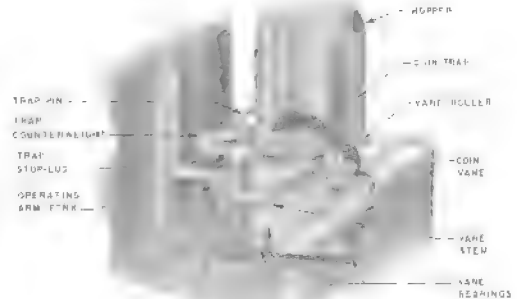

Fig. 57—Hopper and Rear of Two-Coil Coin Relay
- (3) Check trap for catching on vane or on vane roller as follows:
- (4) Check clearance between trap and vane roller as follows:
- (b) Move vane to vertical position. If vane rubs on trap, adjust trap stop lug so that trap will just clear vane (Fig. 57).
- (c) With vane in vertical position, lift trap counterweight. Trap should not move more than a few degrees before touching vane roller. Adjust by bending stop lug (Fig. 57).
- (5) Check operating arm fork and vane stem for roughness. Clean and lubricate as covered in 6.118. Also check operating stud. If stud is rough or roller type, replace relay.
- (6) Remount coin relay as covered in 6.119 and repeat trap and vane release test. If mechanism fails, replace relay.